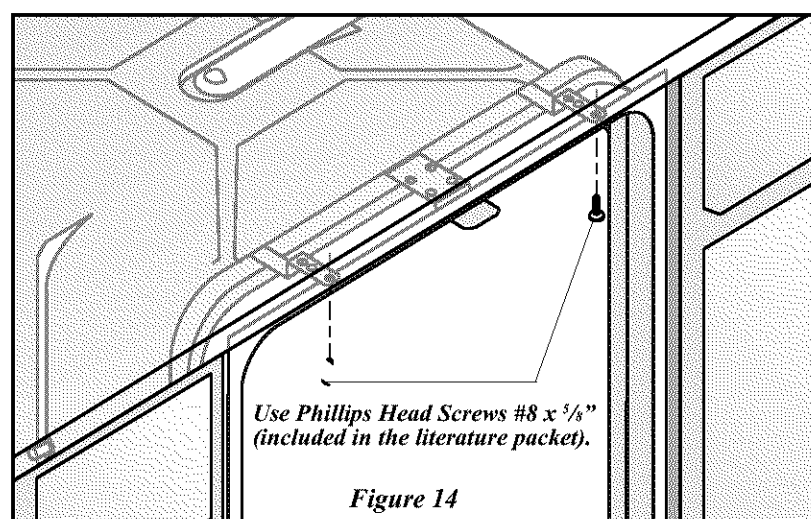

Figure 14
1. Adjust levelers (see Step 5) so mounting brackets touch underside of countertop. **IMPORTANT: Dishwasher must rest on floor—do not hang from countertop.** See Figure 14.